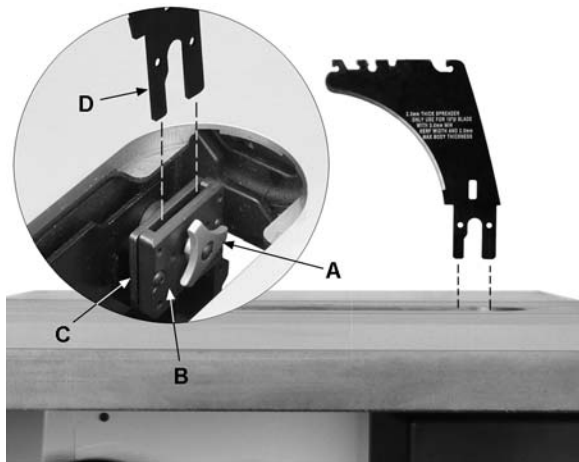

Figure 11
Referring to Figure 11:
3. Through the saw table opening, loosen hand knob (A, Figure 11) by rotating counter-clockwise. The *floating clamp block* (B) will move away from the *fixed block* (C), leaving a gap.
4. Slide *tabs* of riving knife (D) into slot between the two blocks, all the way down onto mounting stud.
5. Tighten the hand knob (A) to secure the riving knife.
The clamping blocks (B/C, Figure 11) are adjusted at the factory and no further adjustment of blade guard and riving knife assembly should